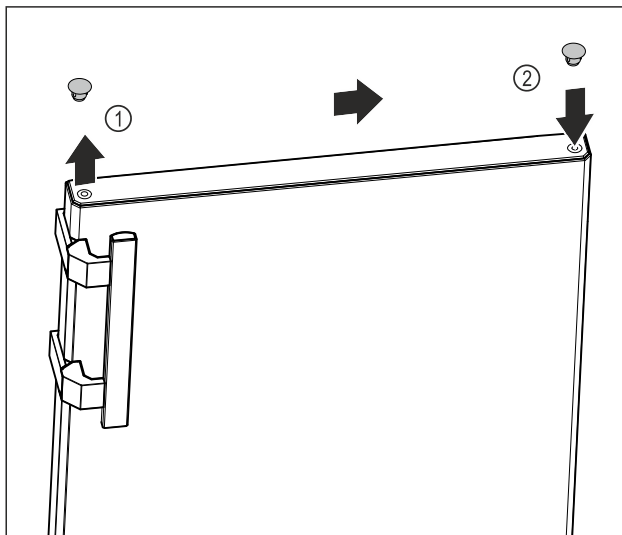

Fig. 18
- Carefully lift the cover plug on the top of the door Fig. 18 (1) with a slotted screwdriver.
- Insert the cover plug on the opposite side. Fig. 18 (2)